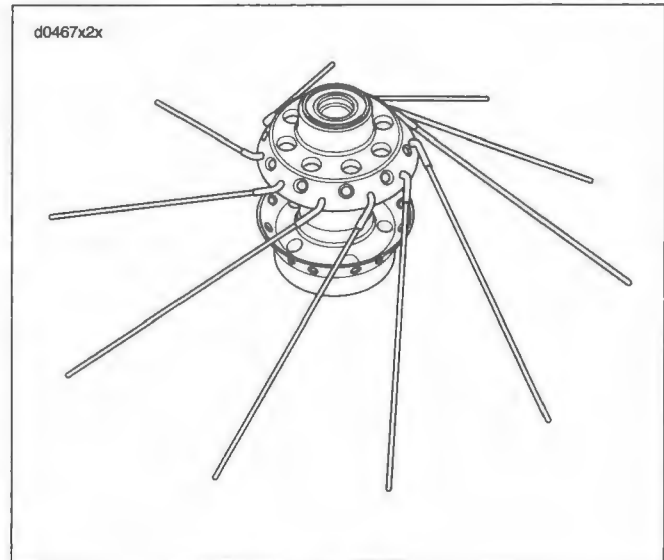

Figure 2-32.
1. See Figure 2-32. Place the hub on table with brake disc side (wide flange) down. Insert a spoke in each hole of the **lower** row as shown below. Angle spokes clockwise.